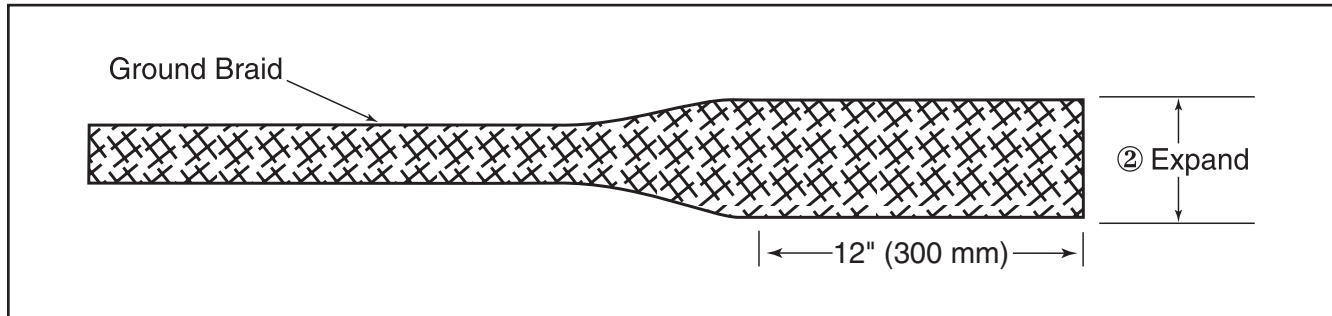

Figure 2
- 2.1 Cut supplied tinned copper grounding braid into three equal 2' (610 mm) lengths. Expand each braid end for a distance of 12" (300 mm) (② Figure 2).